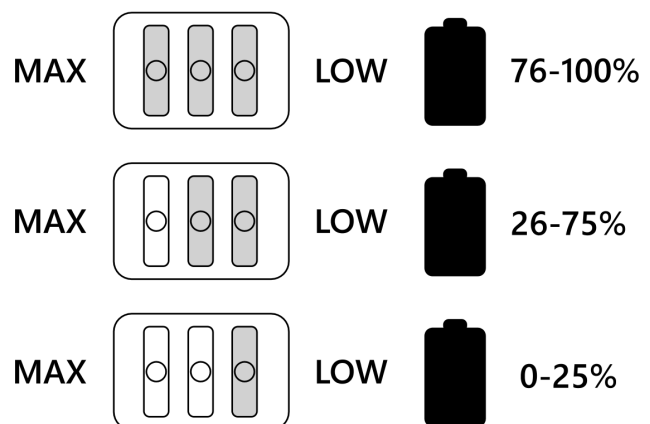

Figure D-2: Cutting Edge Saw™ battery life indicator
- The cordless Cutting Edge Saw™ also includes a battery life sensor on the battery receptacle on the tool, just above the location of the battery connection. This indicator is slightly different than the LED display on the battery unit. See Figure D-2 to view the scale of the battery life indicator on the Cutting Edge Saw™.